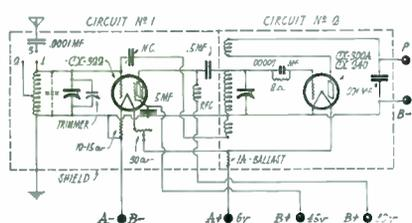

Fig. 1. Circuit Diagram of Browning-Drake
The new double grid tube can be used in the r.f. stage of the Browning-Drake two-tube kit described in January RADIO by a few simple changes. These include (1) shorting out the primary of the r.f. transformer and substituting a 1/2 mfd. condenser and r.f. choke, (2) shielding the r.f. stage, (3) inserting a 1/2 mfd. condenser between the tube's plate and a connection to ground, and (4) putting a 10 or 15 ohm resistance in the filament circuit to reduce from 0 to 1.3 volts. A neutralizing condenser is used to balance the very small capacity between the tube's plate and control grid, thus giving greater efficiency for the regeneration on the r.f. transformer. These changes are shown in Fig. 1.
the first tuned circuit, as shown by dotted lines in Fig. 1. In many cases, however, especially if the 0001 mfd. series antenna condenser adds enough capacity, the trimmer condenser will take care of any difference between the two singly-controlled tuning condenser settings throughout the waveband. A few experiments will determine whether it is needed in any installation.